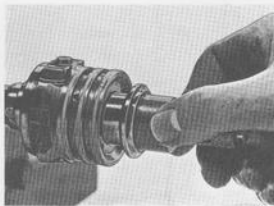

Fig. 6-85. Checking bearing
1. Fit the needle bearings (61) in the bearing sleeve (60) and test it on the worm spindle (Fig. 6-85). The sleeve should turn easily without any noticeable play. If there is any noticeable play, test with thicker needles in the needle bearing. These are available in four sizes with a difference between each of $2\text{ }\mu\text{m}$ ($0.002\text{ mm} = 0.0008''$), see "Specifications". Bearing sleeves are available with external diameter 28.0 mm ($1.102''$) and 28.015 mm ($1.103''$). Use tool 2481 for installing the sleeve.